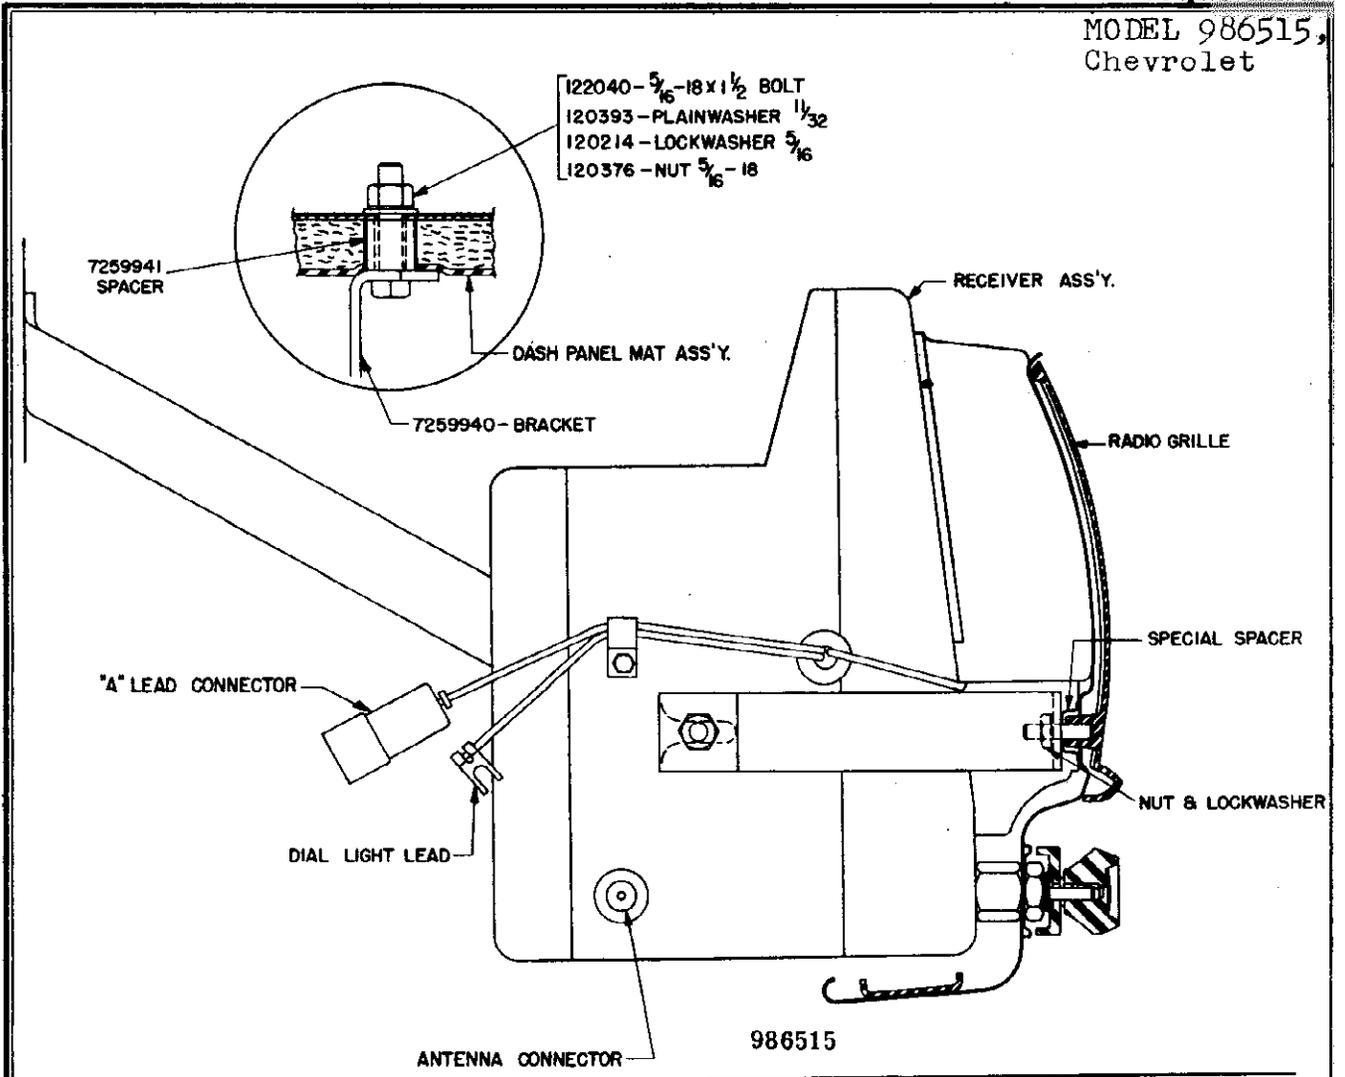

Figure 20
19. Attach male end of fuse holder to accessory junction block in either of optional positions (Figures 16 and 21) and then, insert fuse in male end of fuse holder and screw female end with "A" lead onto male fuse holder. (See Figures 20 and 21.)
20. Plug antenna into antenna socket on side of receiver (Figure 20), turn on receiver and tune in a weak station near 140 on the dial with volume in maximum position and an-